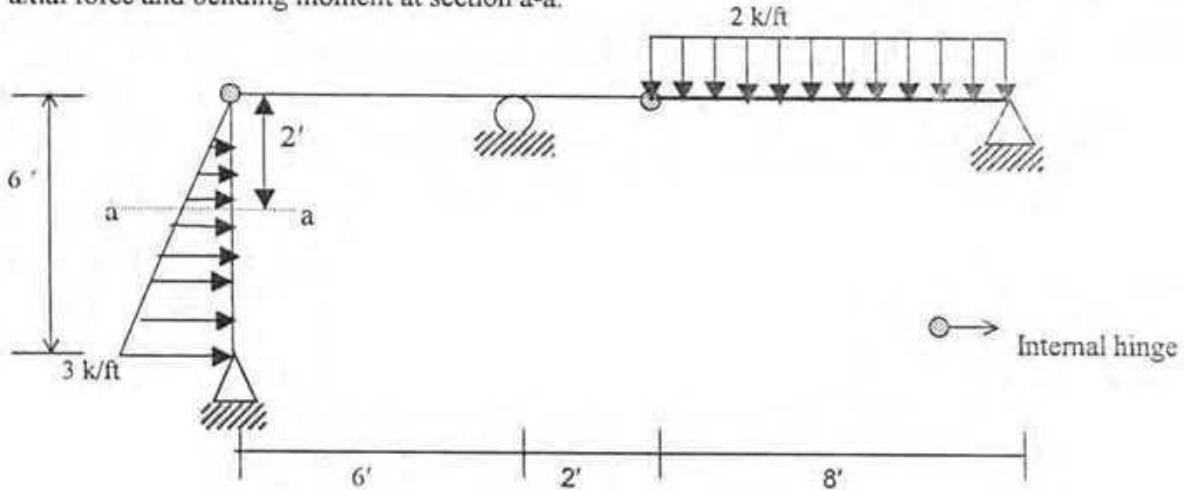

Fig.1
Q1. Determine the reactions for the frame, loaded as shown in Fig.1. Also find the shear force, axial force and bending moment at section a-a. (10)